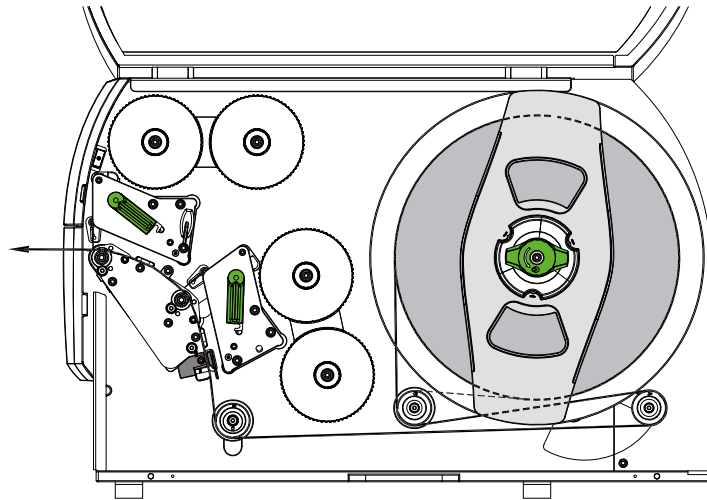

Figure 12 Label feed path
2. Unroll a label strip and guide it through the print mechanics as shown in figure 12 to the upper print roller (2). The broken line shows the path for inside wound labels.